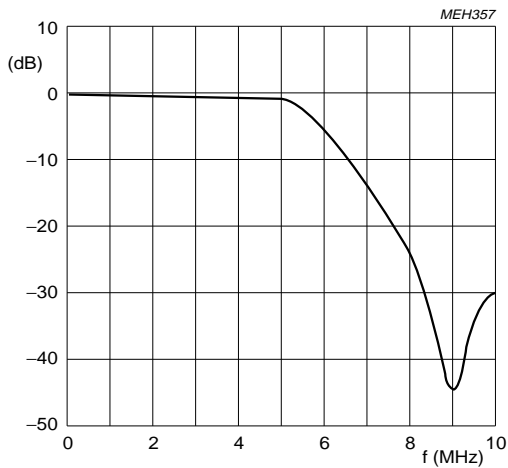

Fig.13 Characteristics of low-pass post-filters; without compensation of DC hold.
- (1) Without compensation of the DAC hold characteristic (see Fig.13).